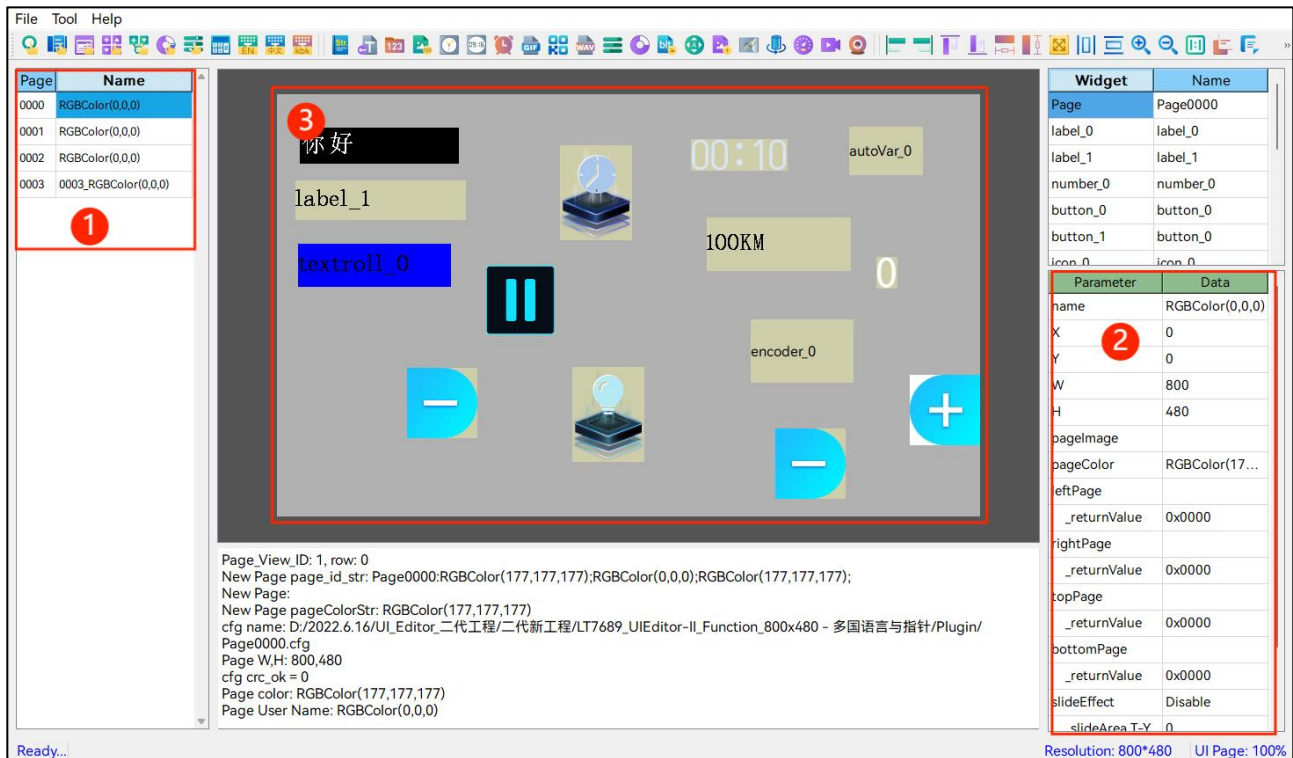

Figure 5-1: Check Page Parameters
As shown in Figure 5-1, ②, this area lists all the page parameters. To review certain page's parameters, developers may (1) select from the page list, as shown in Figure 5-1, ①; (2) click on the editing area (not on any widgets), as shown in Figure 5-1, ③.